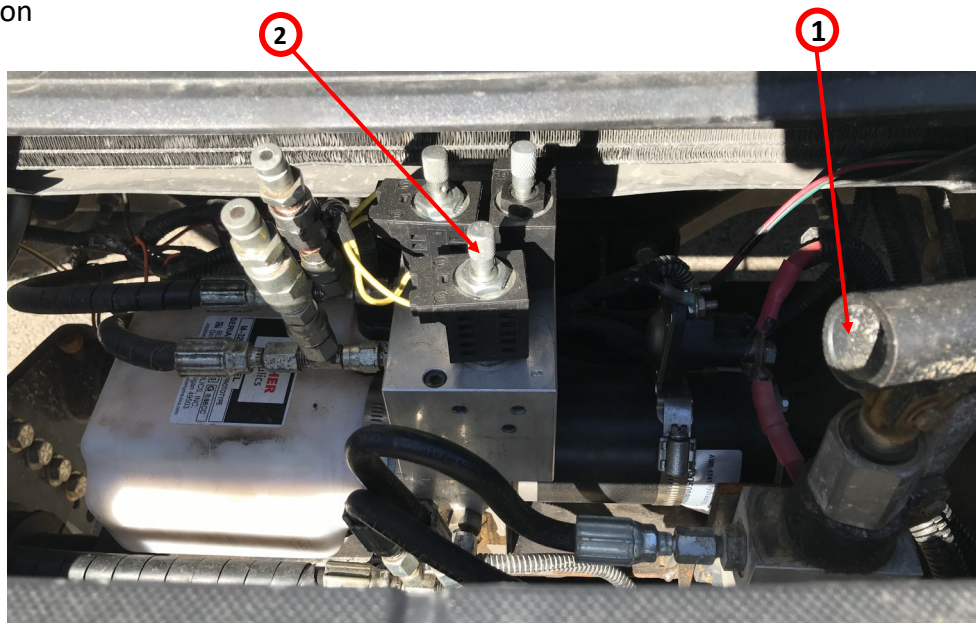

Figure 6
1. Insert the pump handle into the location (1) shown below in Figure 6
2. Turn the bypass knob (2)